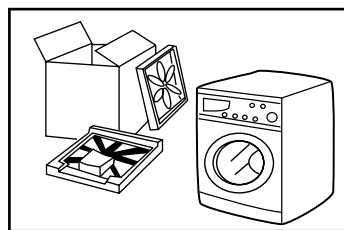

Fig.1
- Remove all the packing materials (including the foam base) to prevent vibration during use, as shown in Fig. 1.